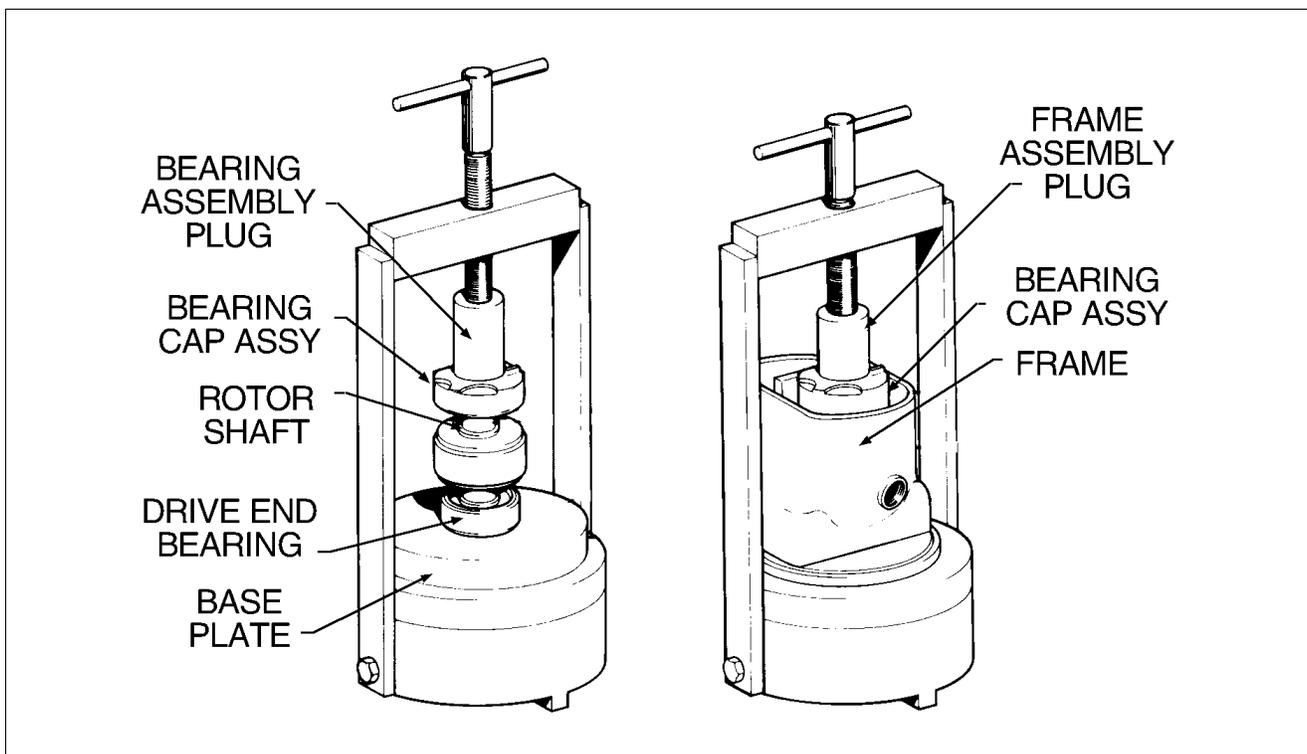

Figure 74-10. Installation of Bearings
- (1) Assemble new bearings onto shaft (see Figure 74-10)
- (2) Install rotor shaft assembly (see Figure 74-10)